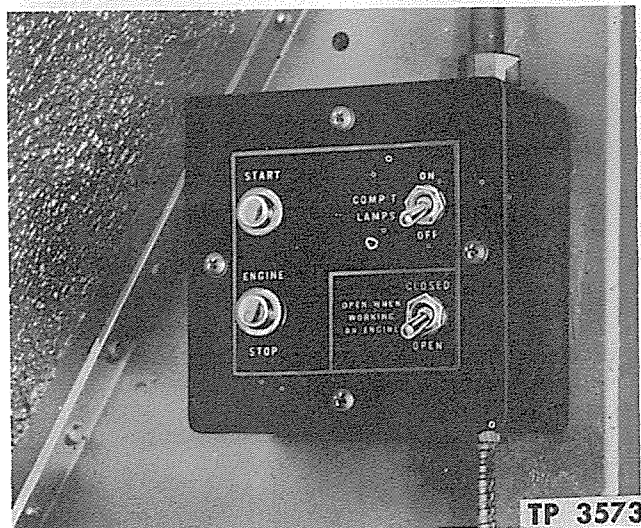

Figure 6—Engine Compartment Control Box
Controls for operating engine from engine compartment at rear of vehicle are accessible through right-hand engine compartment door (fig. 6). These controls are: Engine starter button, marked "START"; engine stop button, marked "ENGINE STOP"; and starter cut-out switch, marked "OPEN WHEN WORKING ON ENGINE." Starter cut-out switch must be in "CLOSED" position when starting engine, either at front or rear.
3. Make sure starter cut-out switch is in "CLOSED" position (fig. 6). Press and hold "START" button to crank engine. Release button as soon as engine starts. Use same precautions regarding use of starter as previously explained under "Starting Engine at Front."
Press "ENGINE STOP" button on control box in engine compartment (fig. 6). In the event engine fails to stop, raise emergency stop solenoid plunger (fig. 5) manually to release air choke valve. Whenever emergency stop has been used, air choke valve must be re-set as described in preceding paragraph.